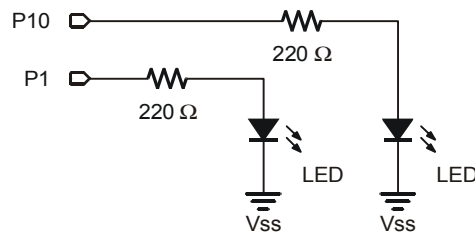

Figure 5-9
- ✓ If you are have a Board of Education, add the circuit shown Figure 5-9 with the help of the wiring diagram in Figure 5-10 (page 163).
- ✓ If you are have a HomeWork Board, add the circuit shown Figure 5-9 with the help of the wiring diagram in Figure 5-11 (page 164).